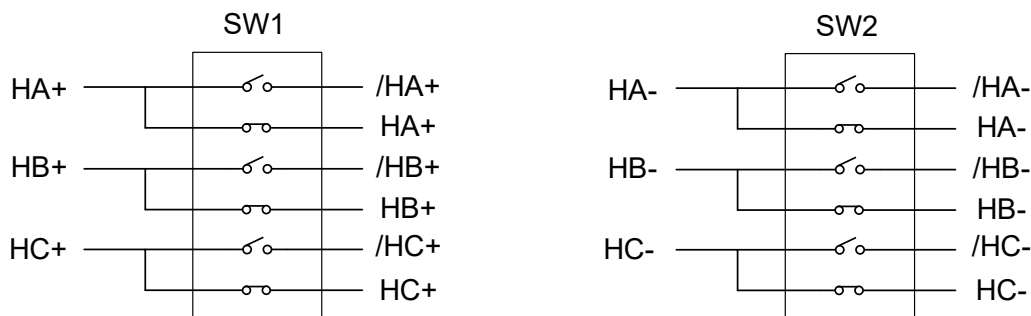

Figure 5: SW1 and SW2 with the Hall Element Connection
- Use SW1 and SW2 to switch to the correct terminal (see Figure 5).